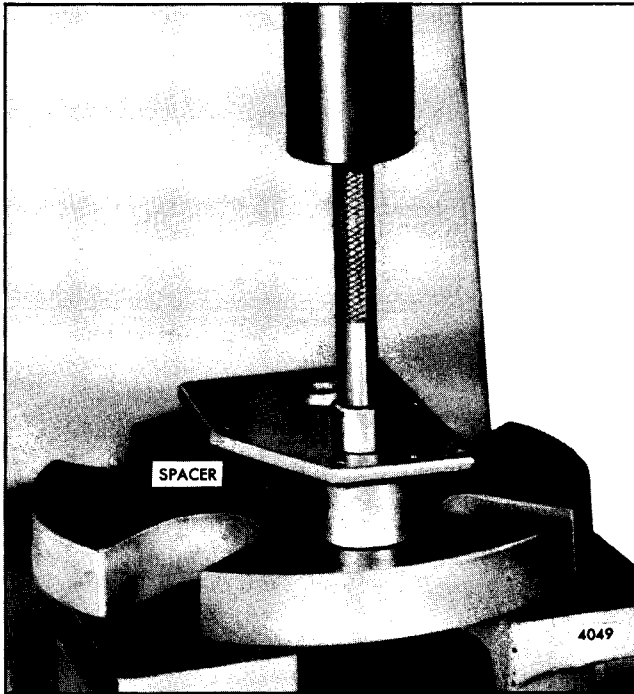

Fig. 5 - Removing Governor Cover Bearings using Tool J 21967-01
5. If the bearings (or bushing) are to be removed, place the governor cover with the inner face down on an arbor press. Place a hollow spacer between the cover and the bed of the press (Fig. 5). Place the bearing remover J 21967-01 on top of the upper bearing (or bushing) and press both bearings (or bushing) out of the cover.